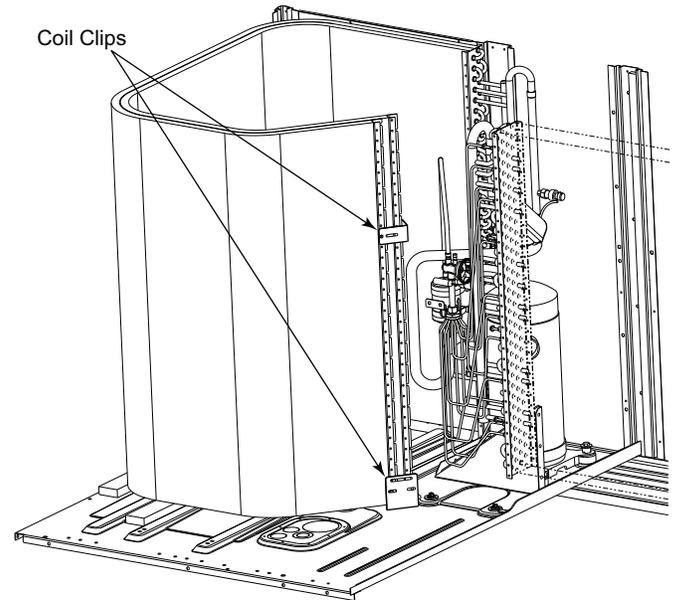

Fig. 15 – Condenser Coil Clips
5. Remove the screws from both sides of the upper and lower coil retaining clips on the hairpin end of the coil tube sheets. See Fig. 15.